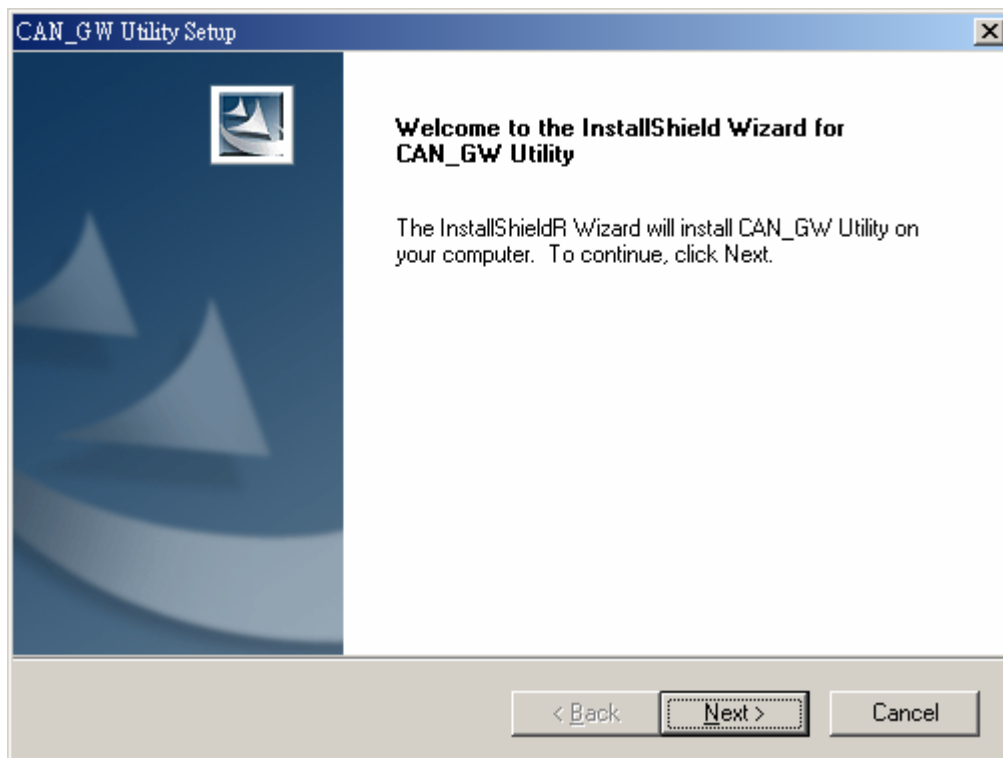

Fig 5-2. Welcome dialog
Step 3: A "Welcome" window pops up to prompt user as Fig 5-2 shown.